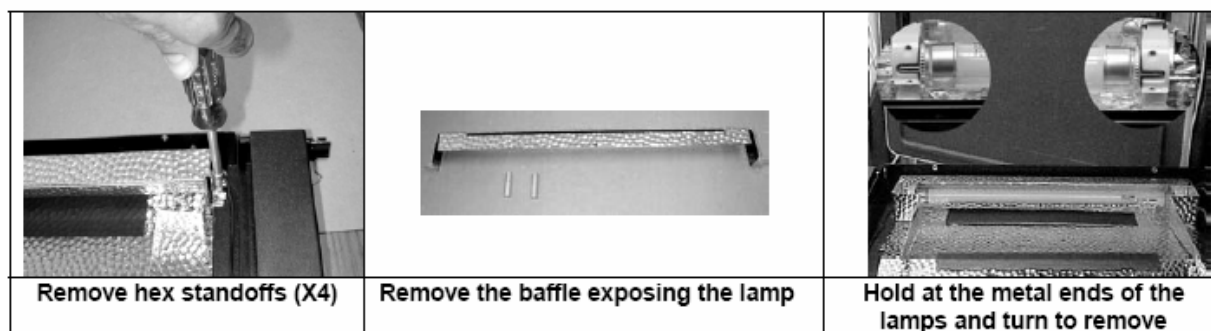

Figure 5.2. Removing UV lamps.
8. Remove lamps by holding the metal part of the lamps with the tip of your fingers and turning them in a rotating movement and by pulling them out of the socket. (Figure 5.2)